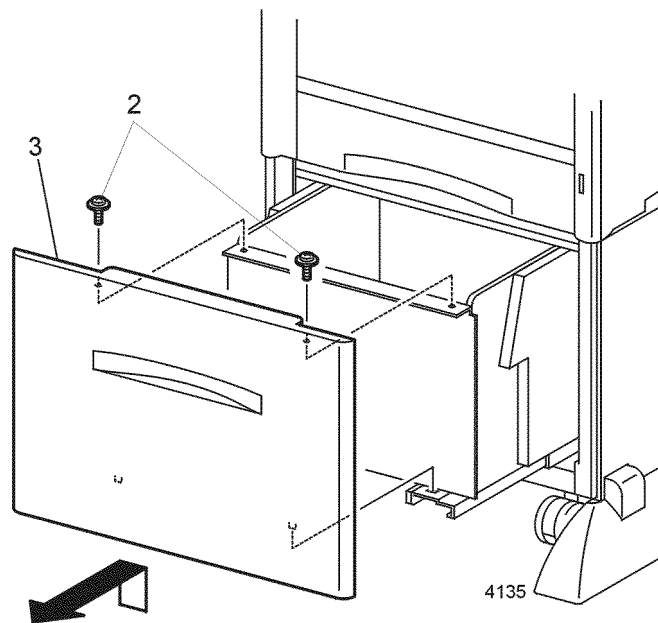

Figure 1 Front Cover
2. Remove the two screws that secure the front cover (Figure 1).
3. Pull the top of the cover out and up to remove (Figure 1).